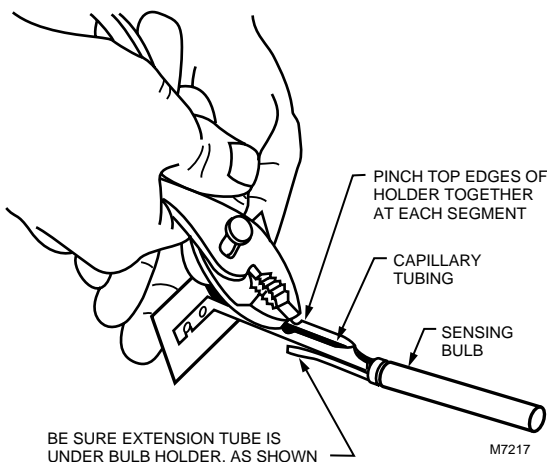

Fig. 14. Securing capillary in bulb holder.
4. Place the capillary in the bulb holder channel. Pinch the top edges of the holder together at each segment. See Fig. 14.